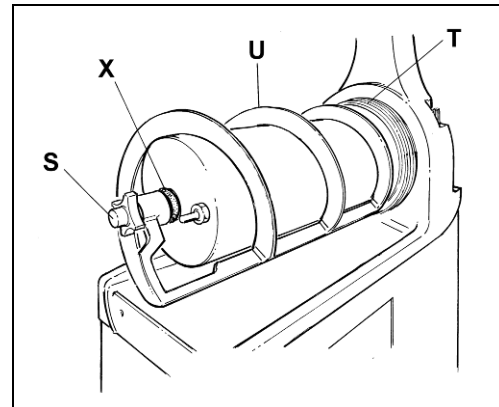

Fig. 14
- Unscrew the securing bolt (S) in the direction of the arrow (threading on the left), pull off of the mixing unit (U), and remove the sealing washers (X) and (T) (see figure 14).
- Mount the mixing system back together (fig.14), according to the following procedures: